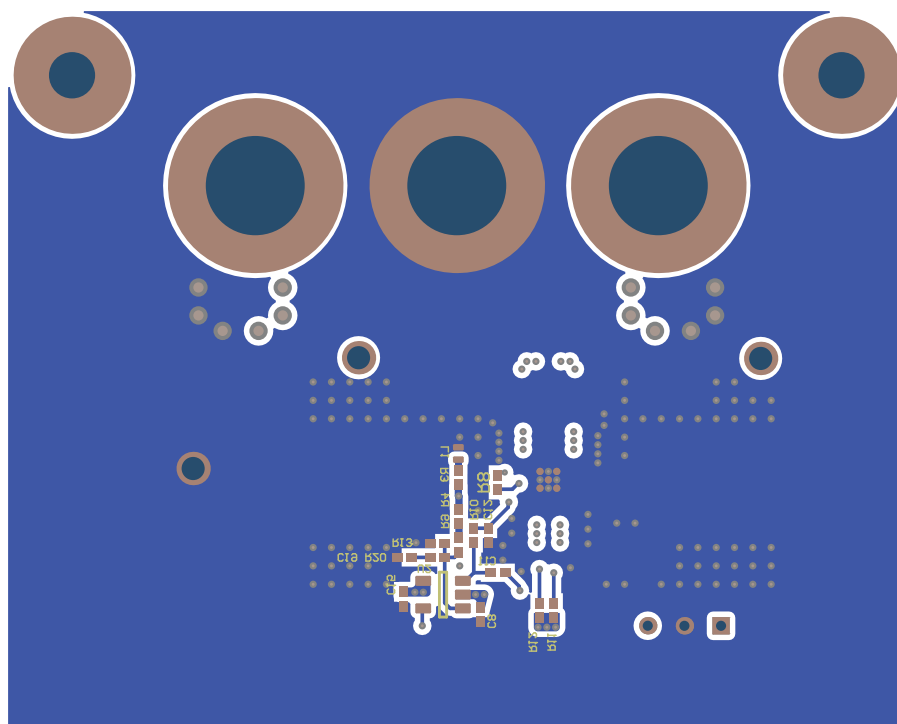

Figure 11-3. Layout Example: Bottom Layer
- **High precision signal path,** consisting of the precision op amp along with discrete components, can be adjusted and moved around to give precedence to the above two points. In the Figure 11-3, the precision components were placed on the opposite side of the PCB as the BUF802.